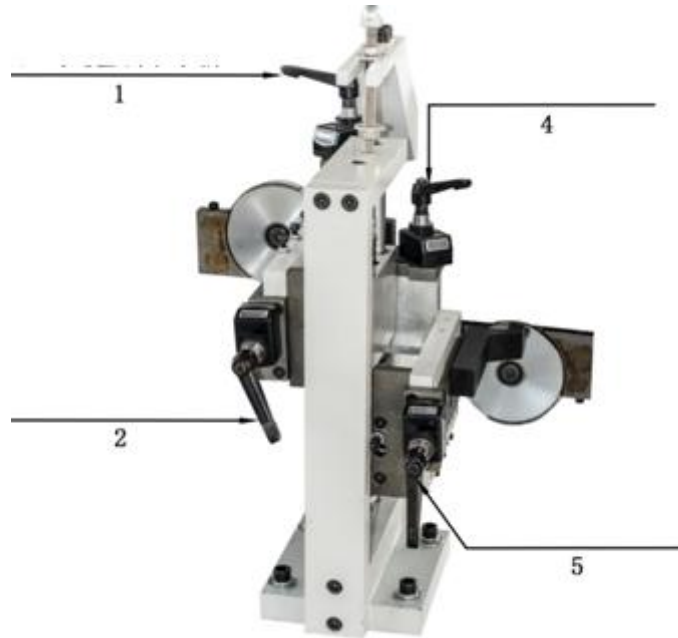

Figure 12
8.7.1 The regulation of the scraping system (Fig. 12):